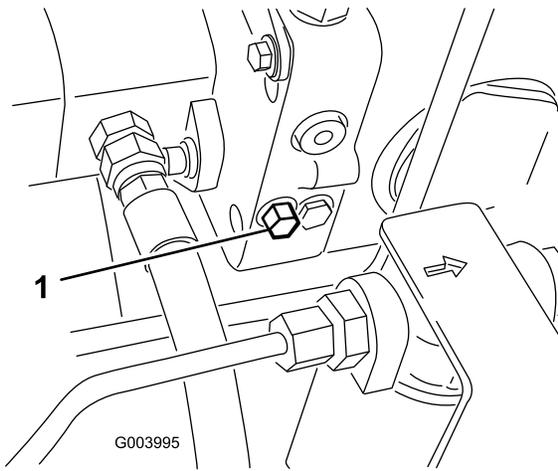

Figure 18
1. The bypass valve is located on the left side of the hydrostat (Figure 18). Rotate the bolt 1-1/2 turns to open and allow oil to bypass internally. Because fluid is bypassed, the machine can be moved slowly without damaging the transmission.